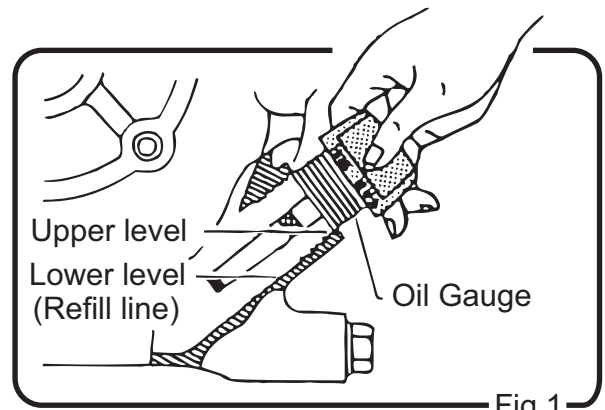

Fig.1
- 5 Set the engine on a level surface to check the oil level. If the oil level is low, add oil. Use the following engine oil.(Fig 1)